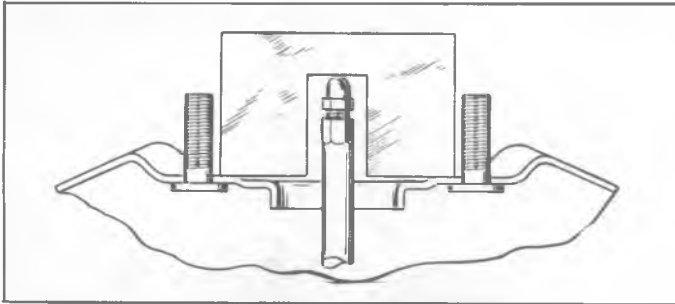

Fig. 16—Adjustment of Push Rod
1. Place top of Push Rod Height Gauge J-21183 over push rod with legs of gauge resting on front of rear shell Figure 16. Top of screw should touch gauge.